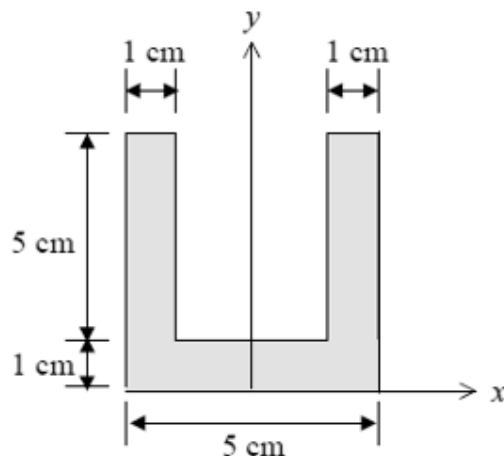

Figure 1
Q - 2 (A) Determine the moments of inertia and the radius of gyration of the shaded area with respect to the centroidal axis as shown in Figure 1. [07]